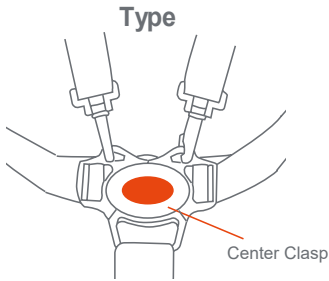

Fig. 11
11) • Push button on center clasp, the harness buckles will pop free (Fig. 11).